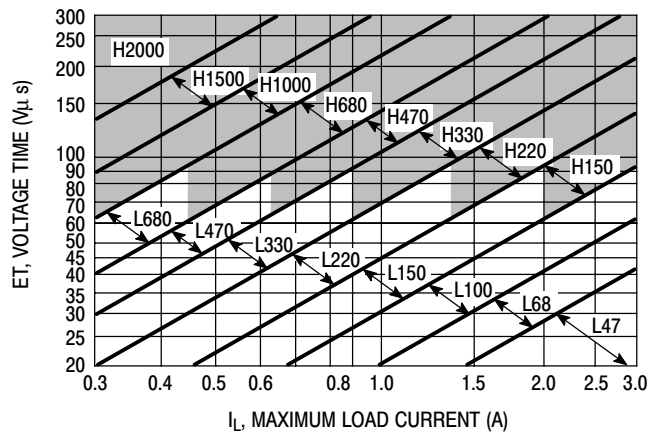
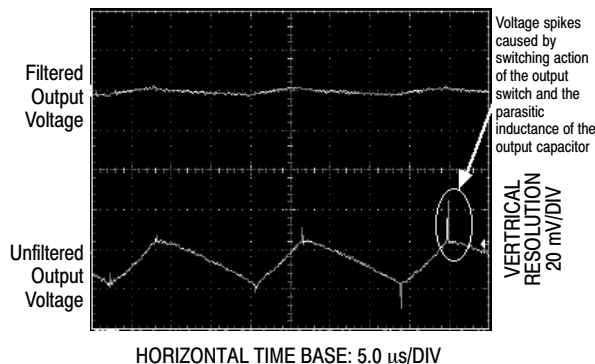

Figure 22. LM2576-ADJ
Figure 25. Output Ripple Voltage Waveforms
4. Inductor Selection (L1) A. Use the following formula to calculate the inductor Volt x microsecond [V x μs] constant: $E \times T = (V_{in} - V_{out}) \frac{V_{out}}{V_{in}} \times \frac{10^6}{F[\text{Hz}]} \text{ [V x } \mu\text{s]}$ B. Match the calculated E x T value with the corresponding number on the vertical axis of the Inductor Value Selection Guide shown in Figure 22. This E x T constant is a measure of the energy handling capability of an inductor and is dependent upon the type of core, the core area, the number of turns, and the duty cycle. C. Next step is to identify the inductance region intersected by the E x T value and the maximum load current value on the horizontal axis shown in Figure 25. D. From the inductor code, identify the inductor value. Then select an appropriate inductor from Table 2. The inductor chosen must be rated for a switching frequency of 52 kHz and for a current rating of $1.15 \times I_{Load}$. The inductor current rating can also be determined by calculating the inductor peak current: $I_{p(max)} = I_{Load(max)} + \frac{(V_{in} - V_{out}) t_{on}}{2L}$ where t_{on} is the "on" time of the power switch and $t_{on} = \frac{V_{out}}{V_{in}} \times \frac{1.0}{f_{osc}}$ For additional information about the inductor, see the inductor section in the "External Components" section of this data sheet.	4. Inductor Selection (L1) A. Calculate E x T [V x μs] constant: $E \times T = (25 - 8.0) \times \frac{8.0}{25} \times \frac{1000}{52} = 80 \text{ [V x } \mu\text{s]}$ B. E x T = 80 [V x μs] C. $I_{Load(max)} = 2.5 \text{ A}$ Inductance Region = H150 D. Proper inductor value = 150 μH Choose the inductor from Table 2.
The regulator output voltage may also contain short voltage spikes at the peaks of the sawtooth waveform (see Figure 25). These voltage spikes are present because of the fast switching action of the output switch, and the parasitic inductance of the output filter capacitor. There are some other important factors such as wiring inductance, stray capacitance, as well as the scope probe used to evaluate these transients, all these contribute to the amplitude of these spikes. To minimize these voltage spikes, low inductance capacitors should be used, and their lead lengths must be kept short. The importance of quality printed circuit board layout design should also be highlighted.
In order to minimize the output ripple voltage it is possible to enlarge the inductance value of the inductor L1 and/or to use a larger value output capacitor. There is also another way to smooth the output by means of an additional LC filter (20 μ H, 100 μ F), that can be added to the output (see Figure 34) to further reduce the amount of output ripple and transients. With such a filter it is possible to reduce the output ripple voltage transients 10 times or more. Figure 25 shows the difference between filtered and unfiltered output waveforms of the regulator shown in Figure 34.